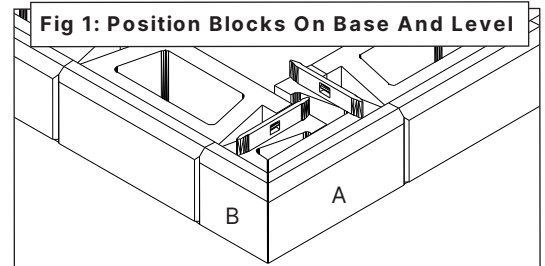

Fig 2: Apply Construction Adhesive
- Remove 1 side of corner assembly and apply 0.25 in. (6 mm) bead of construction adhesive on the mitered edge (Fig 2).